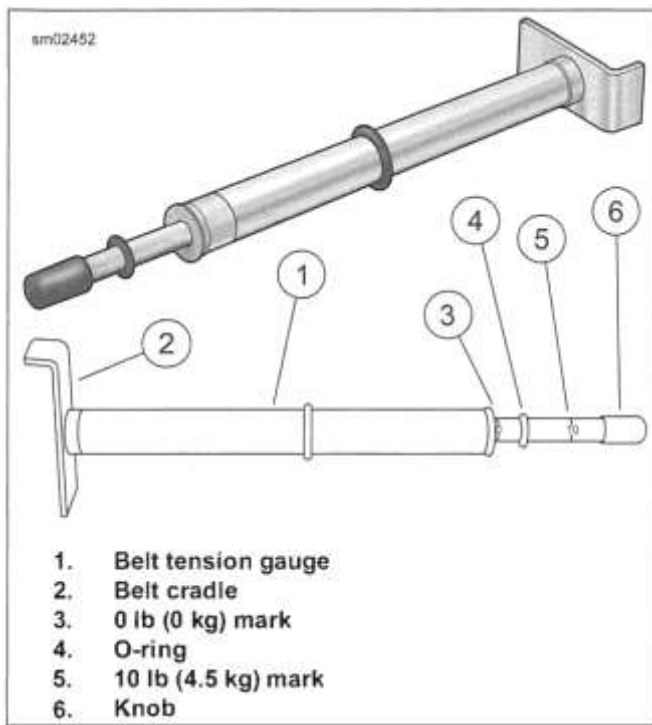

Figure 2-34. Belt Tension Gauge
4. See Figure 2-34. Measure belt deflection using BELT TENSION GAUGE (PART NUMBER: HD-35381-A):
- a. Slide O-ring (4) to zero mark (3).
- b. **Models equipped with belt deflection window:** Fit belt cradle (2) against bottom of drive belt in line with belt deflection window.
- c. **All other models:** Fit belt cradle (2) against bottom of drive belt halfway between drive pulleys.
- d. Press upward on knob (6) until O-ring slides down to 10 lb (4.54 kg) mark (5) and hold steady.